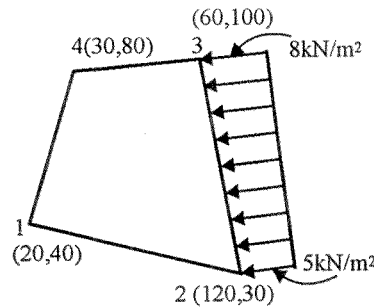

Fig. 4
14. A quadrilateral element shown in fig. 4 is subjected to a distributed load normal to the edge 2-3. Obtain the nodal loads 2-3. Thickness : 10 mm.